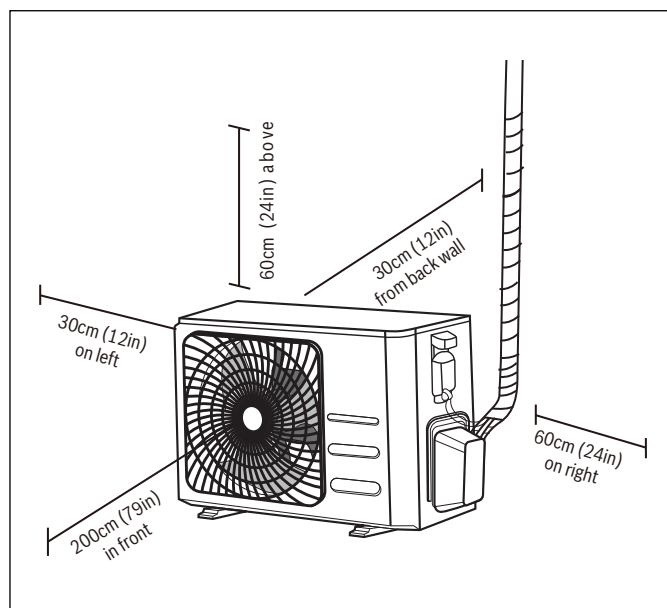

Figure 17
- Meets all spatial minimum requirements shown in Installation Space Requirements (Figure 17)